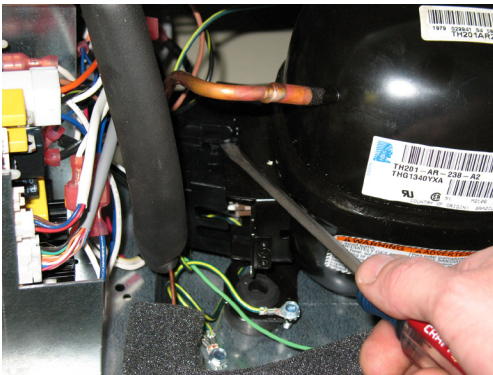

Figure 4.5
5. Remove the cap from the rear of the compressor to expose the starter and overload (see Figures 4.5 and 4.6).